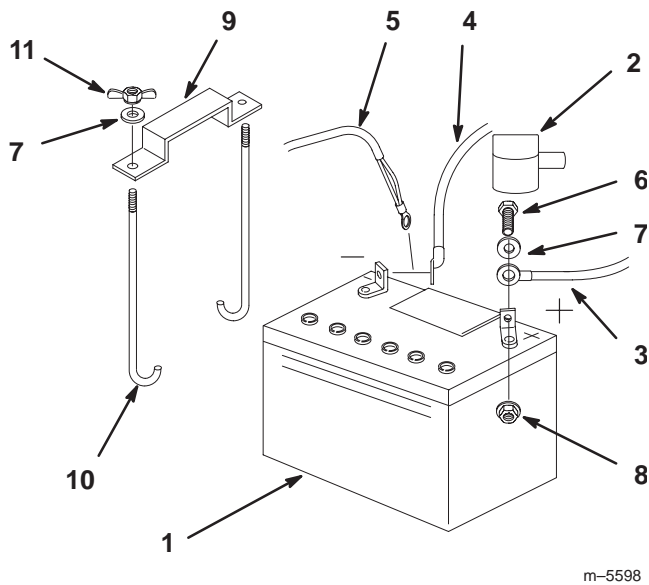

Figure 65
1. Position battery in tray with terminal posts toward the engine (Fig. 65).
4. Secure cables with 2 bolts (1/4 x 3/4 inch), 2 washers (1/4 inch), and 2 locknuts (1/4 inch) (Fig. 65).
6. Secure battery with J-bolts, hold down clamp and 2 washers (1/4 inch), and 2 wing nuts (1/4 inch) (Fig. 65).
3. First disconnect the negative battery cable and ground wire from the negative (–) battery terminal (Fig. 65).
4. Slide the red terminal boot off the positive (red) battery terminal. Then remove positive (red) battery cable (Fig. 65).
5. Remove both wing nuts (1/4 inch) securing the battery clamp (Fig. 65).